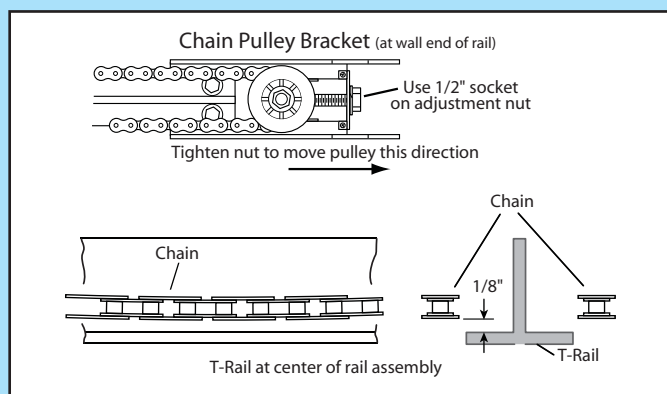

FIG. 1-5 Chain adjustment.
2. Tighten the chain by turning the adjustment nut clockwise. The chain adjustment nut is located opposite the power head at the other end of the rail (Fig. 1-5).
3. Tighten chain until chain is approximately 1/8 inch above the base of the rail at midpoint on the rail (Fig. 1-5). Do NOT over tighten chain.